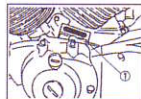

Fig. 3
- ② The engine code is stamped on the crankcase (Fig. 3).
- ③ The vehicle nameplate is fixed on the left of the steering pipe.